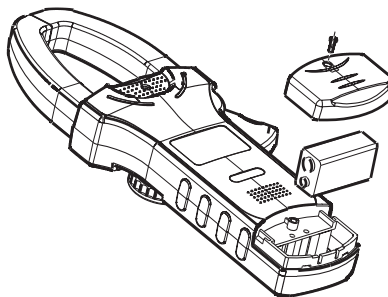

Figure 10
B. Replacing the Battery (see figure 10)